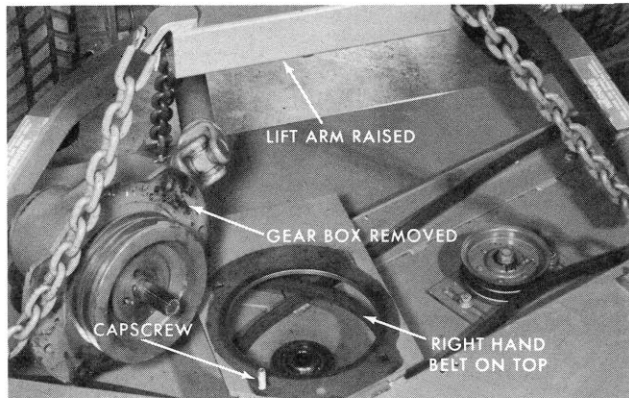

Figure 55
Install the new belts with the right hand belt uppermost, as shown in Figure 55. Reinstall the gear box, feeding the belts into the pulley grooves.
1. Remove the gear box as described in Figure 55 and the accompanying text.